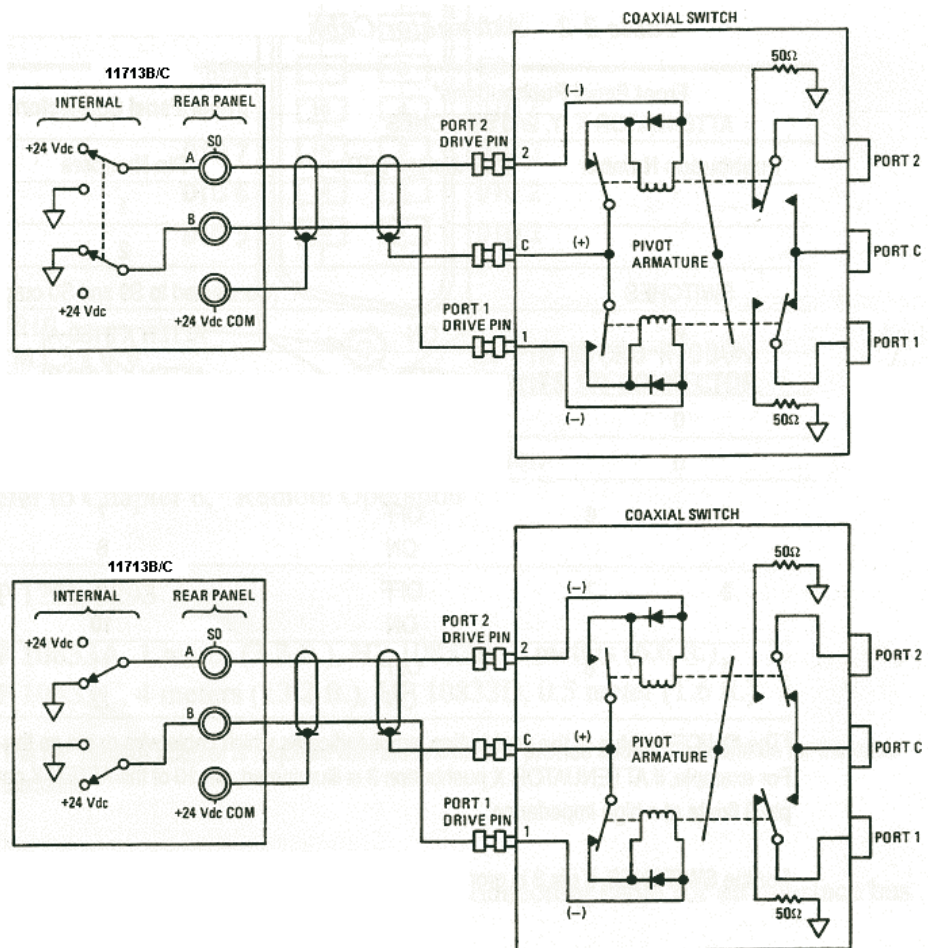

Figure 9 Typical connection for 8762 and 8765 series coaxial switches
- **Figure 9** below shows the rear panel connections to S0 outputs and the corresponding switch positions reflected by pushbutton indicators.